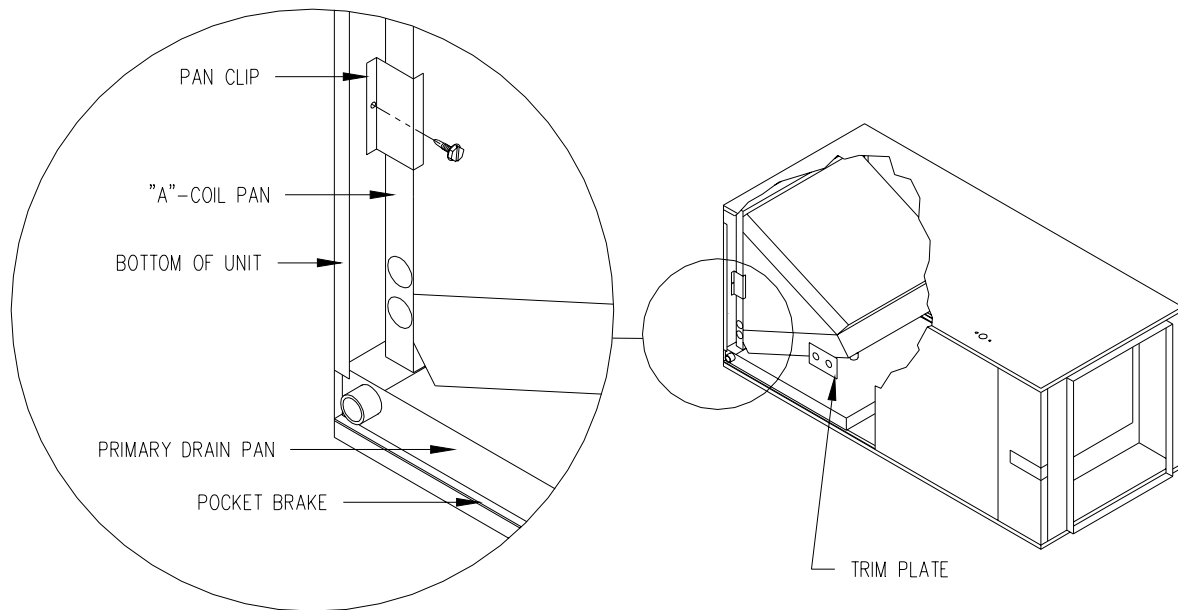

Figure B3
8. Secure front of plastic pan to bottom of unit with supplied pan clip. See Figure B3 inset. An extension for nut driver may be of benefit.